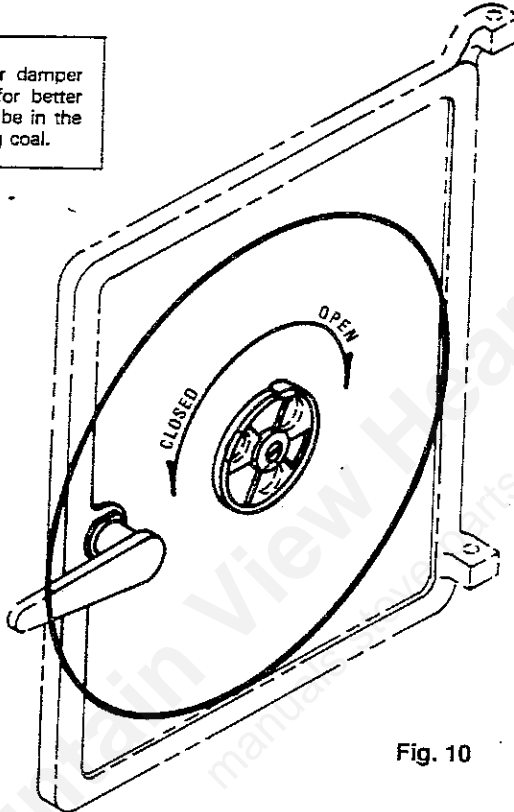

Fig. 10
- d. Adjust air shutter on feed door damper from closed to open position for better burning. See Fig. 10.